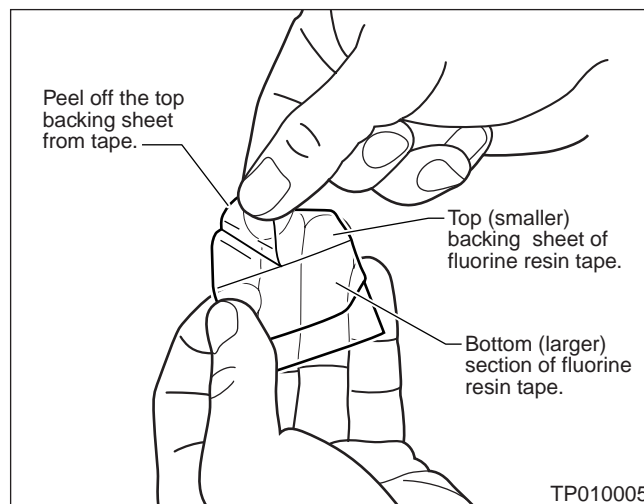

Figure 8
5. Peel off the top (smaller) backing sheet from one of the two fluorine resin tape sections provided in the kit (see Figure 8).